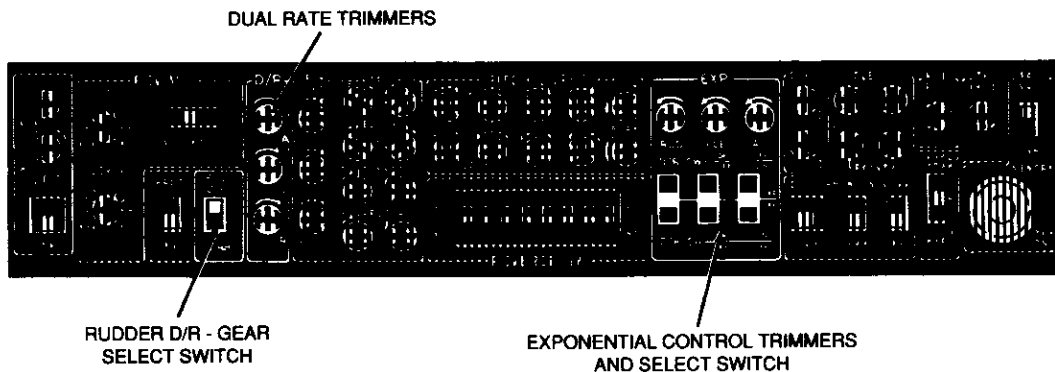

FIGURE 14
To set the aileron and elevator dual rates, turn on the entire system; transmitter, receiver and servos. Set the Dual Rate Switches (19) (20) to the "OFF" position. Operate the elevator and aileron control channel stick (4) over its full deflection and observe the corresponding servos, note that you obtain full servo movement. Now switch the elevator and aileron dual rate switches to the "ON" position and operate the same controls. You should see less servo rotation than previously when operating the controls. If not, the dual rate trimmers on the panel, (Figure 14) may be set to full travel (no travel reduction). Assuming this is the case, insert the plastic screwdriver into the associated D/R trimmer slot and rotate the trimmer counterclockwise (CCW) until, with the control stick held to its full deflection, some reduction in servo travel is seen. Continued rotation of the D/R trimmer will cause servo travel to be reduced as much as 90 percent. Now adjust the other dual rates in the same manner. Turning the dual rate switches off will return servo travel to its normal full movement. You may set reduced travel trimmers anywhere within their range, and when the associated D/R switch is set to "ON", servo travel on that channel is reduced to the preset amount.
You may select either linear dual rate, exponential or a combination of exponential and dual rate by positioning the "EXP-LIN" switches on the trimmer panel, Figure 14, as shown in the table, Figure 15.
The three exponential select switches, Figure 14, are used to select linear, exponential, dual rate linear or dual rate exponential for the rudder, elevator and aileron controls respectively. The position of these select switches, as well as the position of the dual rate switches, are used to select between the options mentioned.